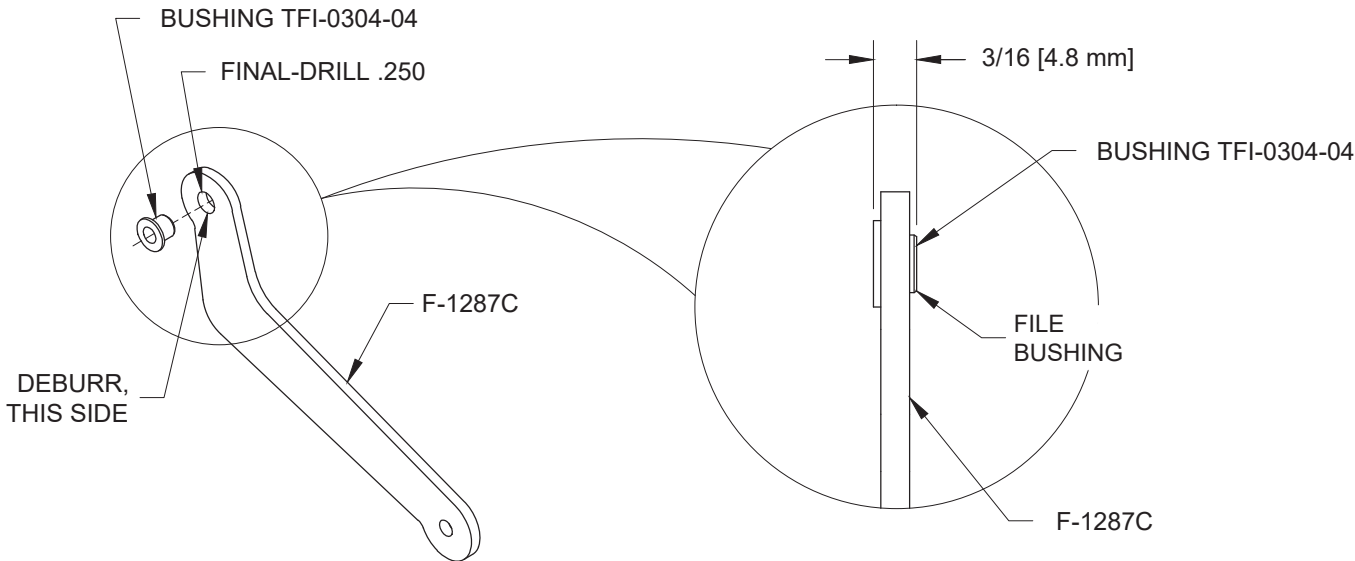

FIGURE 3: INSTALL BUSHING
Step 6: Deburr and flatten as required the F-1287C Link called out in Figure 3.
Step 7: Insert the polymer bushing into the F-1287C Link as shown in Figure 3.